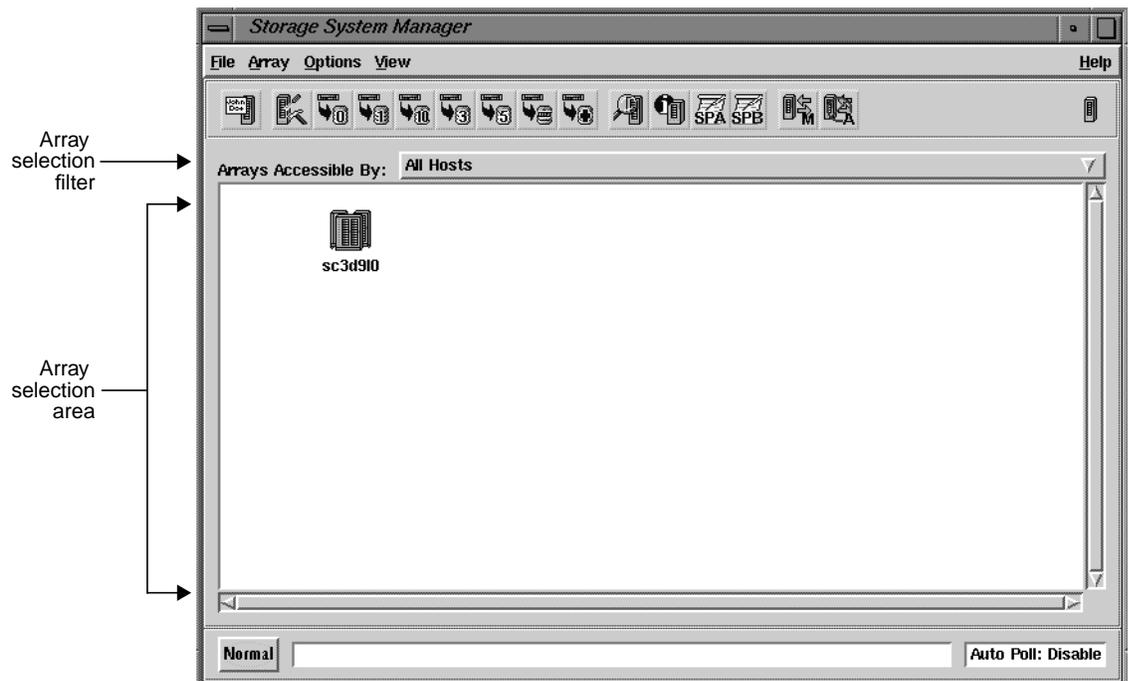

Figure 2-3 Storage System Manager Window: Array Selection Filter and Array Selection Area
ssmgui creates an icon for each array that it finds connected to each server whose hostname you added to the list (unless the icon already exists). *ssmgui* displays these icons in the array selection area of the Storage System Manager window (see Figure 2-3). If an array is connected to two servers, only one icon appears.
Use the array selection filter (Arrays Accessible By field) near the top of the Storage System Manager window to display only those arrays on a server. Figure 2-3 points out this portion of the Storage System Manager window, and other features.
- If the Arrays Accessible By field (see Figure 2-3) shows the hostname of the server whose arrays you want represented in the array selection area, do nothing.
1. If necessary, select the desired server hostname in the Arrays Accessible By field (see Figure 2-3). In the array selection area, *ssmgui* shows icons for arrays that it finds connected to this server.
The array selection area (see Figure 2-3) contains an icon for each array specified by the array selection filter. The icon for an array consists of the array name and a graphic.